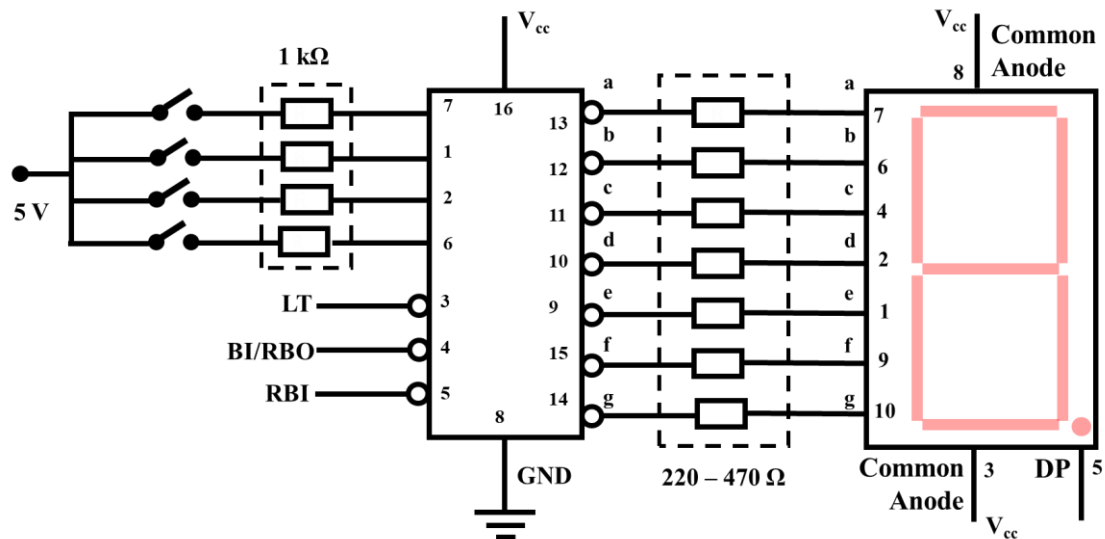

Fig. 1. Circuit diagram to decode binary to decimal using a seven-segment LED display
- Set up the Circuit as shown in fig.1.